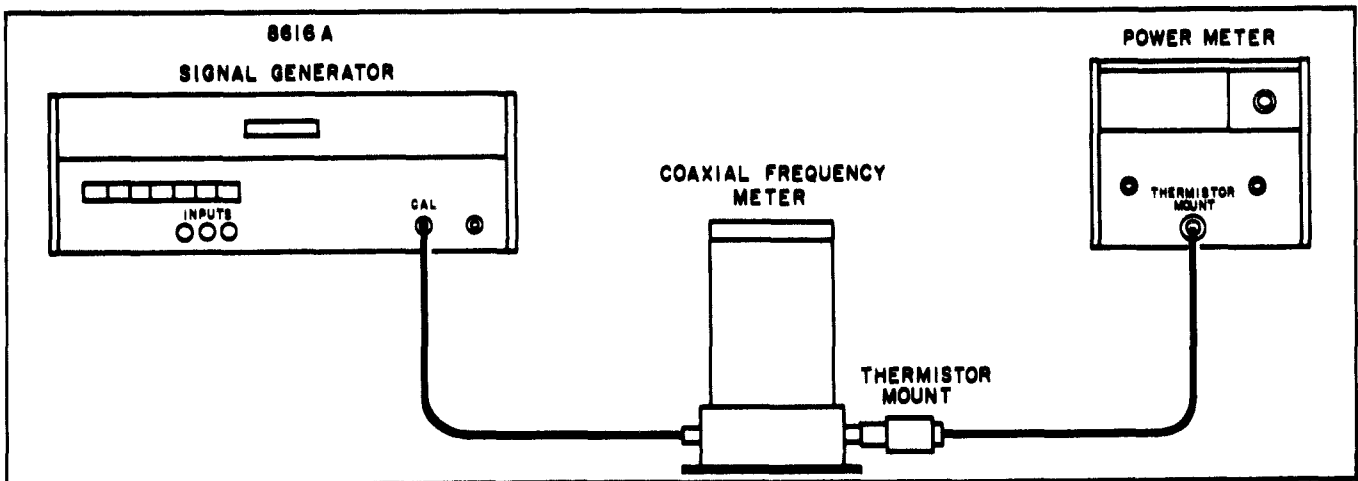

Figure 5-7. Frequency and Power Measurement
a. Connect instrument as shown in Figure 5-7.
a. Connect instruments as shown in Figure 5-7, omitting the frequency meter.